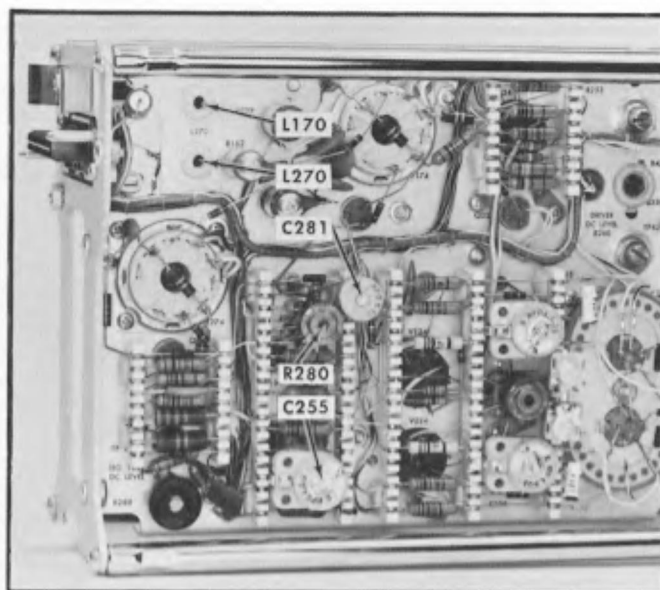

Fig. 5-45. Location of step 35 adjustments.
g. Examine the leading upper corner of the waveform. Aberrations should not exceed 2.5% peak to peak of the fast-rise amplitude of the waveform. Fig. 5-44b is a typical display that can be used as a guide. If the proper display is obtained, proceed to step 35h. If the display has excessive aberrations such as the examples shown in Figs. 5-44c and 5-44d, adjust C255, C281, R280, L170 and L270 to obtain a display having a fast rise and optimum leading upper square corner. Fig. 5-45 shows the location of the adjustments. Table 5-6 lists the relative time-constant effect that each adjustment has.